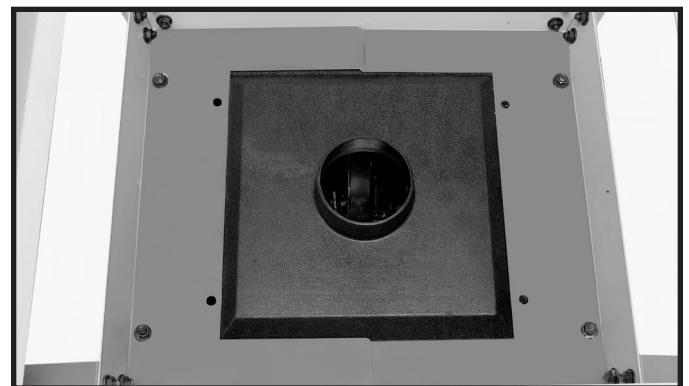

Fig. 5F
6. Fig. 5F, shows the dust collection connector attached to the saw.